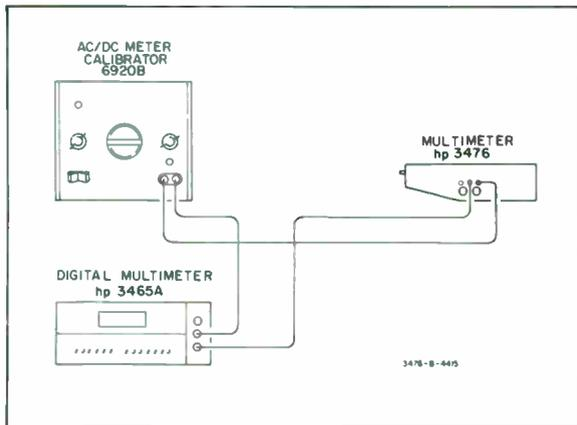

Figure 5-3. AC Ammeter Accuracy Test.
- a. Connect the equipment as shown in Figure 5-3.